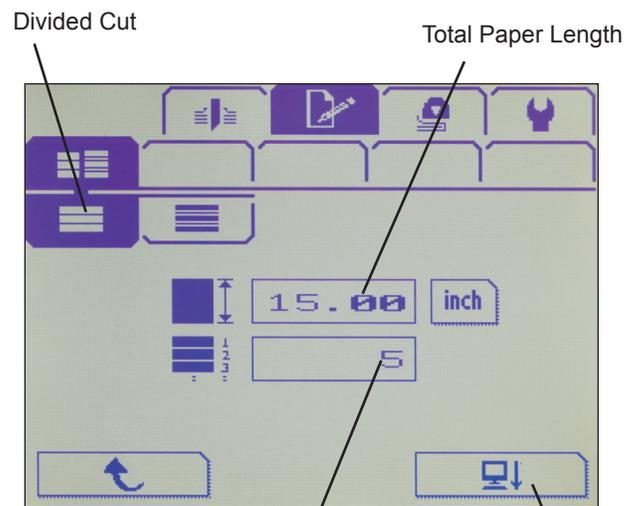

Fig. 8b
4. Press the Divided Cut icon and enter the total paper length, and the # of sections and press the Save button  (Fig. 8b).